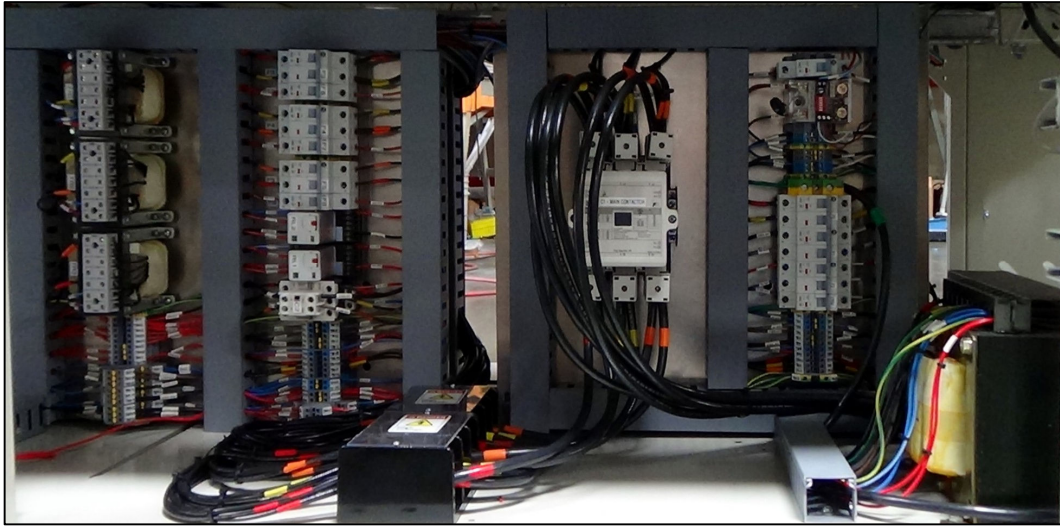

Figure 4-14 Power Distribution and Safety panels
**Safety panel** – Point where power enters the furnace. Contains main contactor. Located at furnace entrance, back side (Figure 4-14).
**PDP** or Power Distribution Panel – Distributes power 3 phases. Located next to Safety panel on furnace back side (Figure 4-14).